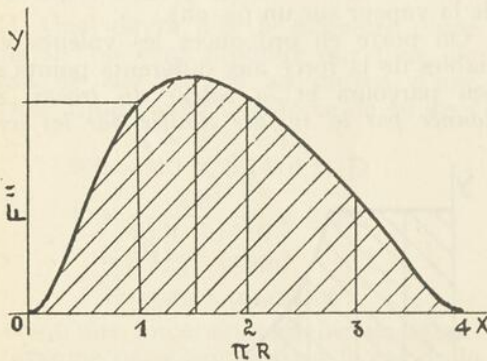

FIG. 10
*Figs. 10, 11, and 12* show different kinds of moulding boxes. *Fig. 10*, made of wood, is a two part detachable flask for small pieces. *Fig. 11* shows the regulation wooden moulding box for big castings in green or dry sand, while *Fig. 12* represents a flask made of all metal.